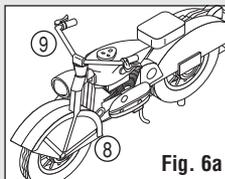

Fig. 6a
- Glue Handlebars ⑨ to Motorcycle Body ⑧ (Fig. 6a).